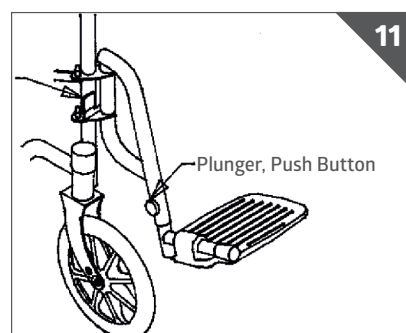

Figure 11
1. Loosen the plunger by pulling out (Fig. 11).